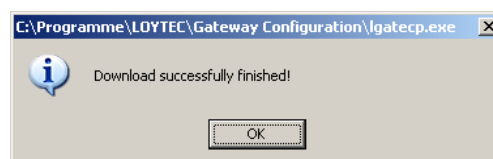

Figure 234: FTP download success dialog.
8. Observe the download progress. When the download is complete, the dialog shown in Figure 234 appears.